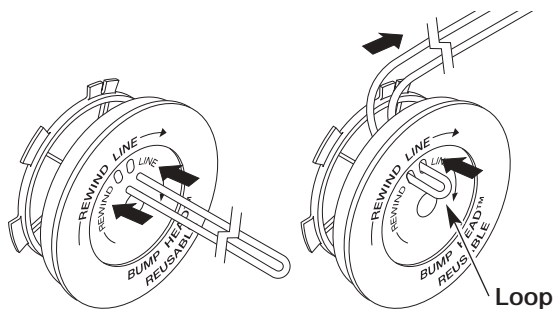

Figure 16
- Cut approximately 25 feet (7.6 m) of new trimming line, then loop it into two equal lengths. Insert each end of the line through one of the two holes in the inner reel. Pull the line through the inner reel so that the loop is as small as possible. See Figure 16.